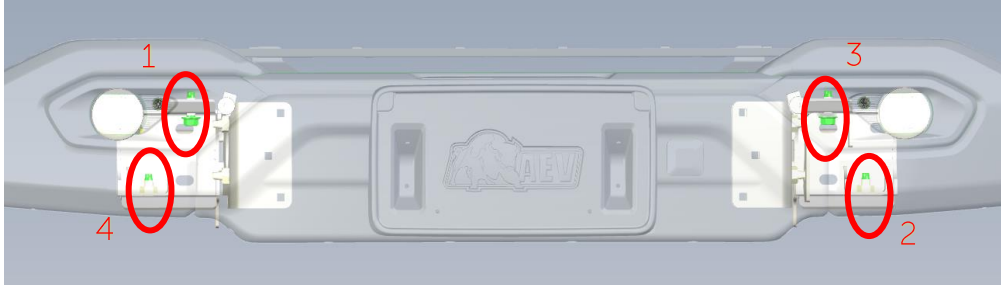

Figure 8 - M10 Torquing Sequence
- a. M10 Bolts - M15 socket - 58 +/- 3 Nm - Fig. 8